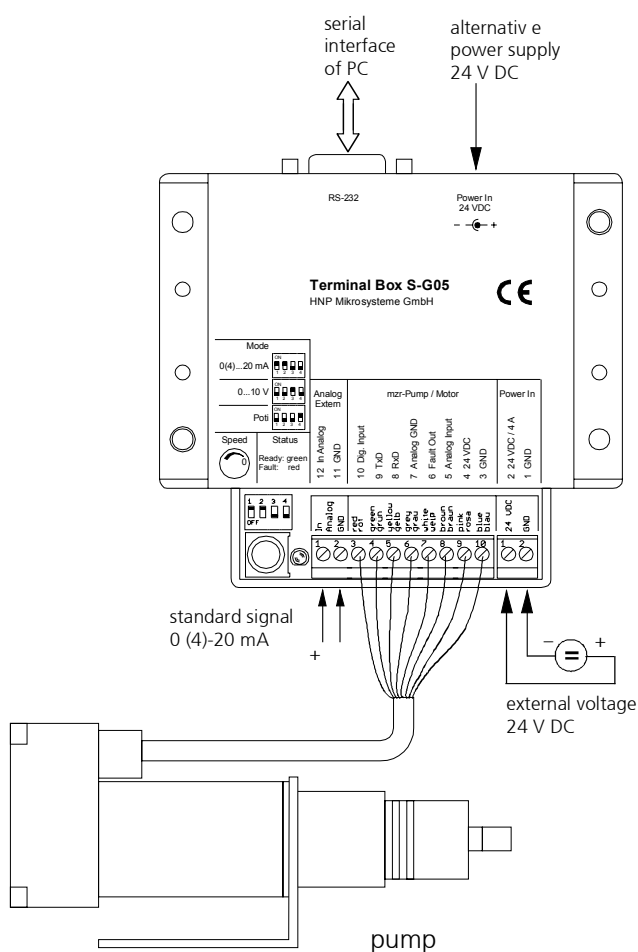

figure 25
4. Connect the external current source to the screw clamps »AnalogIn« and »GND« to the S-G05. (see figure 25).